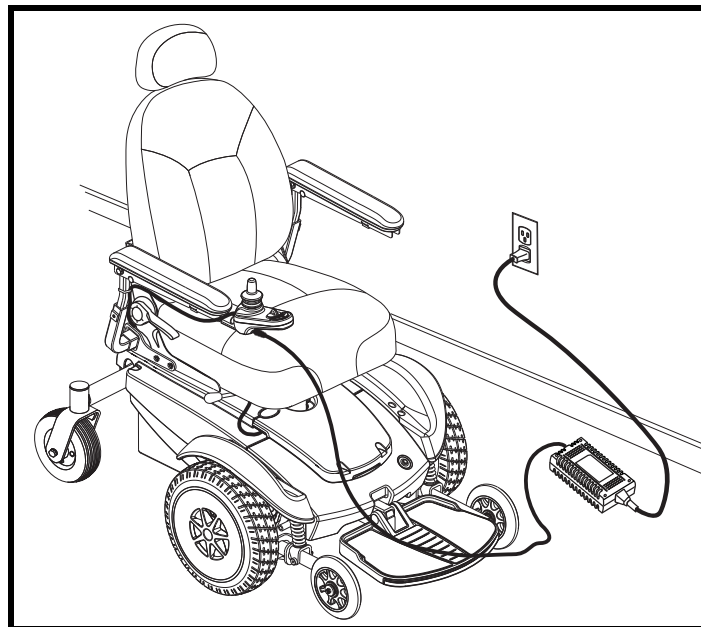

Figure 18. Battery Charging
1. Position the front of your power chair next to a standard electrical outlet. See figure 18.
3. Plug the off-board charger into the off-board charger/programming socket on the controller. See figure 18.